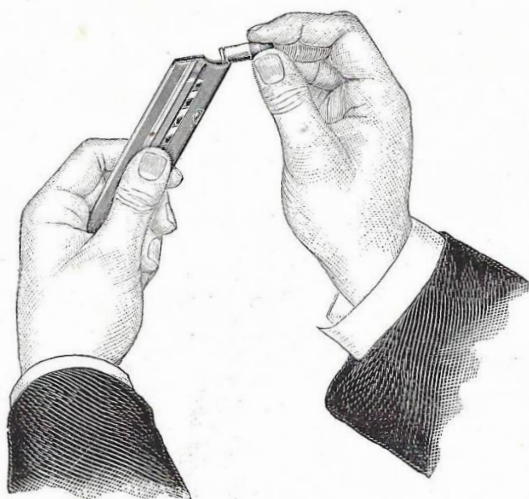

Fig. 1.
- Fig. 1. shows the result obtained with a normal charge from the Smith & Wesson revolver;